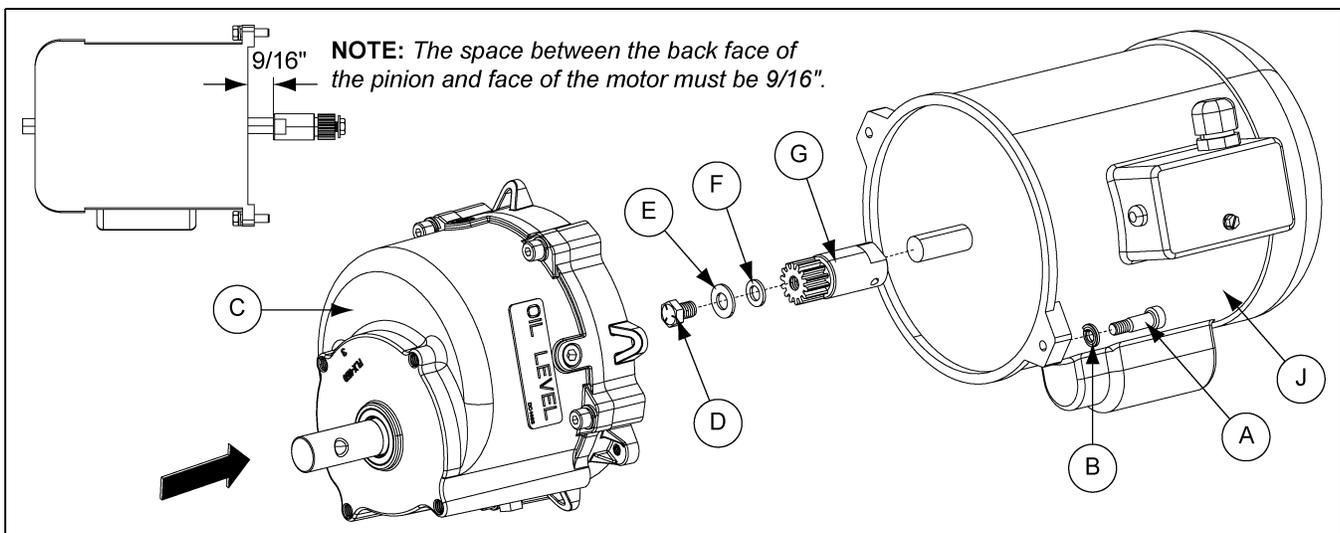

Figure 5AD
- Re-install the gearbox (C) to the motor (J) using the bolt (A) and washer (B) previously removed. (See Figure 5AD.) Tighten bolt to 50 in-lbs.